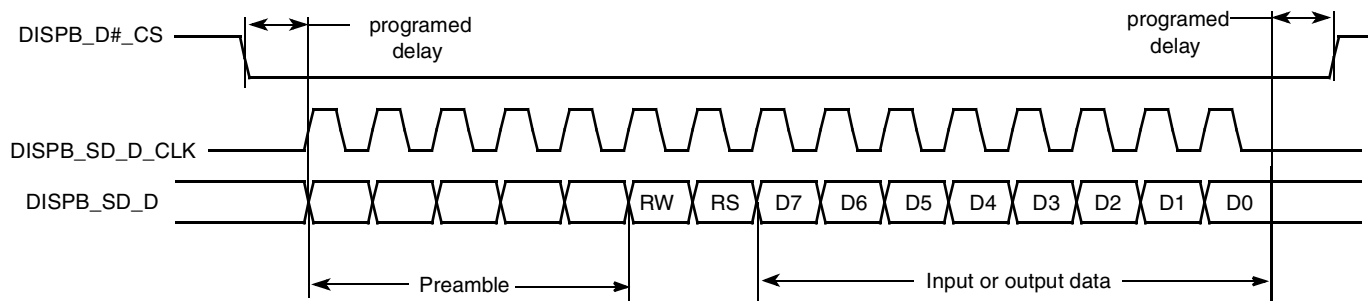

Figure 64. 3-Wire Serial Interface Timing Diagram
**Figure 64** depicts the timing diagram of the 3-wire serial interface. The timing diagrams correspond to active-low IPP#\_CS signal and the straight polarity of the IPP\_CLK signal.